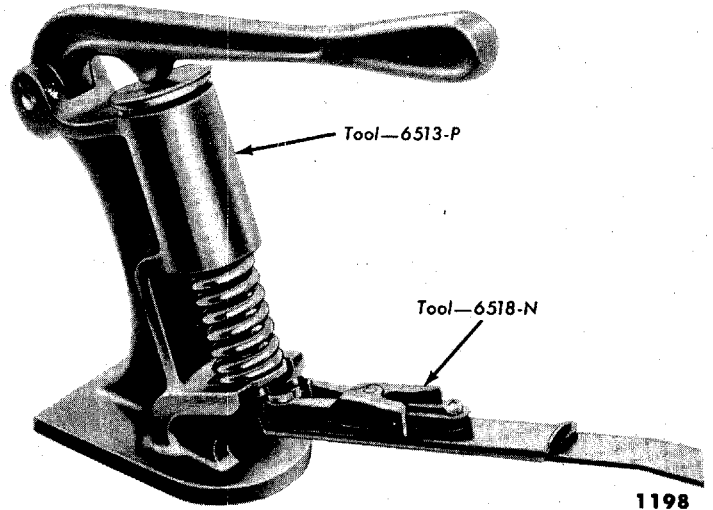
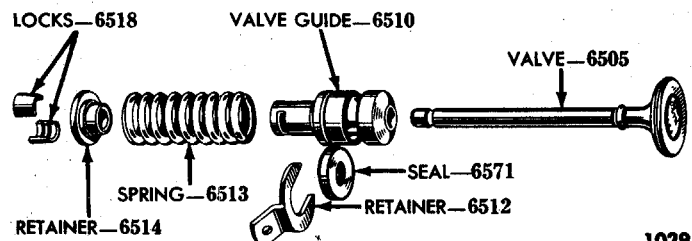

Fig. 23—Replacing Valve Spring Retainer Locks
Fig. 24—Valve and Related Parts
(3) **DISASSEMBLY.** Compress the spring with a compressing tool as shown in fig. 23 and remove the valve spring retainer locks. Remove the valve spring retainer, valve spring, and the valve guide (fig. 24).
(fig. 23). Compress the spring and install the retainer locks with the lock replacer.